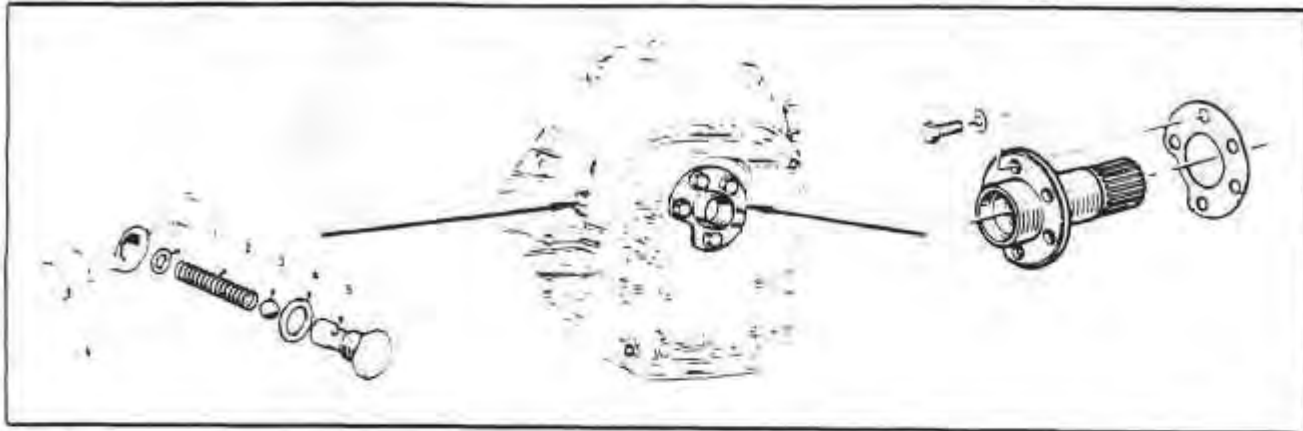

Fig. 84
2. Remove the stator shaft and gasket. Fig. 84
3. Remove the converter return safety valve, ball, spring, and washer. Fig. 84